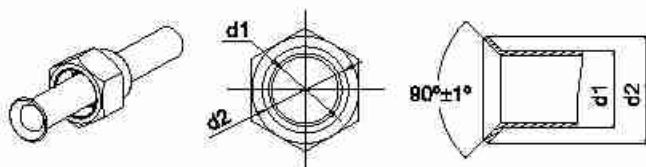

Fig.9
4. Check if the flare part is spread evenly and there are no cracks (see Fig.9).